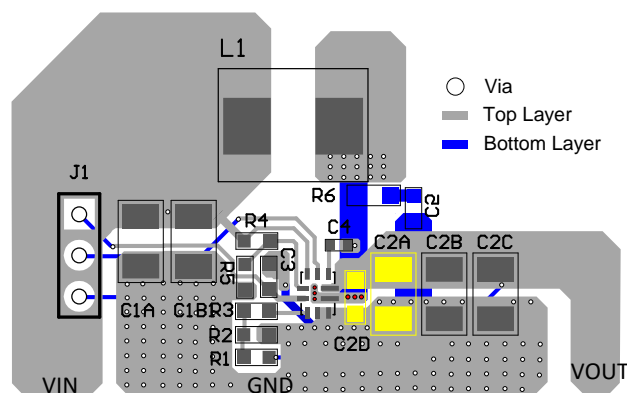
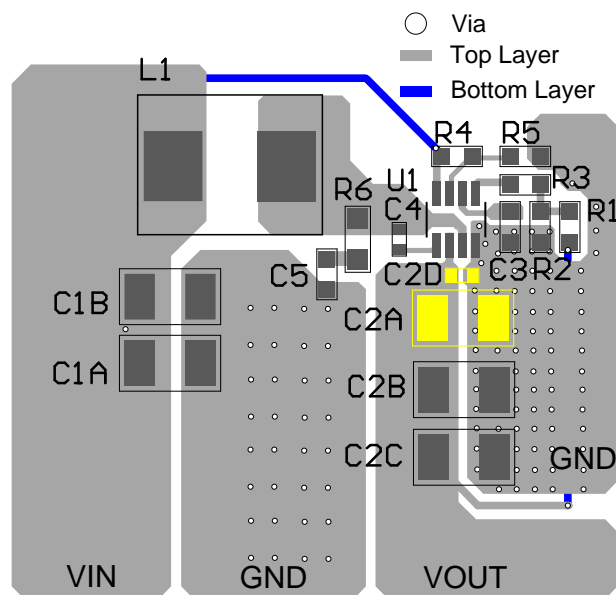

Figure 3: Recommended PCB Layout for QFN-10 Package
Figure 4: Recommended PCB Layout for TSOT23 Package
Efficient PCB layout is critical for high-frequency switching power supplies. Poor layout can result in reduced performance, excessive electromagnetic interference (EMI), resistive loss, and system instability. For the best results, refer to Figure 3 and Figure 4 and follow the guidelines below, unless otherwise noted:
1. Place the output capacitor (C2A, C2B, and C2C) as close to V_{OUT} and GND as possible. Place a 0.1 μ F capacitor close to the IC (C2D) to reduce parasitic inductance (shown with the yellow components in Figure 3 and Figure 4).
2. For the QFN package, connect the SW pin underneath the IC using vias (shown with the red components in Figure 3). For the TSOT package, connect the SW pin on the top PCB layer using the copper that is under the IC (see Figure 4).
3. If V_{OUT_SET} is above 15V, it is recommended to connect the RC snubber to SW and GND (shown with R6 and C5 in Figure 3 and Figure 4).